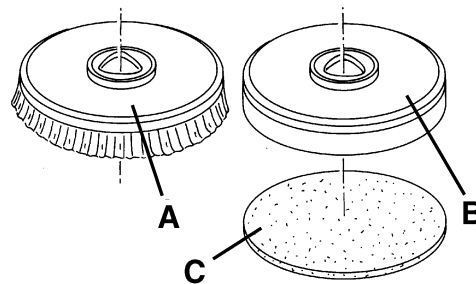

Figure 2
1. According to the kind of cleaning to be performed, the machine can be equipped either with brushes (A, Fig. 2) or pad-holders (B) with pads (C) together with the appropriate deck.
2. Insert the ignition key (80) and turn it to "I".
3. Turn the speed adjuster (4) to idle by turning it counter-clockwise.
4. Place the brushes (A) or the pad-holders (B) under the deck (18).
5. Lower the deck on the brushes/pad-holders by pressing the switch (71).
6. To engage the brushes/pad-holders, press the drive paddle (3) and then release it. If necessary, repeat the procedure until the brushes/pad-holders are engaged.
*Turn the speed adjuster (4) counter-clockwise to run the machine at idle speed.*
*Do not press the paddle (3) completely, otherwise the machine will start moving.*
7. To remove the brushes/pad-holders, the deck must be lifted by pressing the switch (71), then press the switch (75) and wait for the brush/pad-holder to fall on the floor.